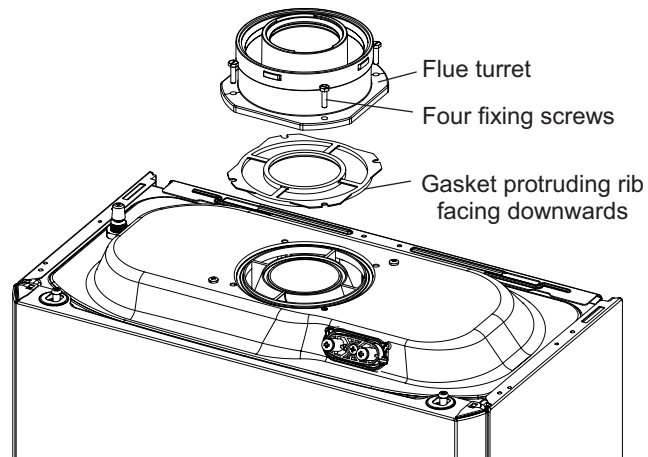

Fig. 5.5
### 5.6 FIT THE FLUE TURRET - Figs. 5.5 and 5.6
2. Place the flat concentric gasket onto the boiler, ensuring the protruding 60mm rib is facing downwards and located correctly. See Figs. 5.5 and 5.6.